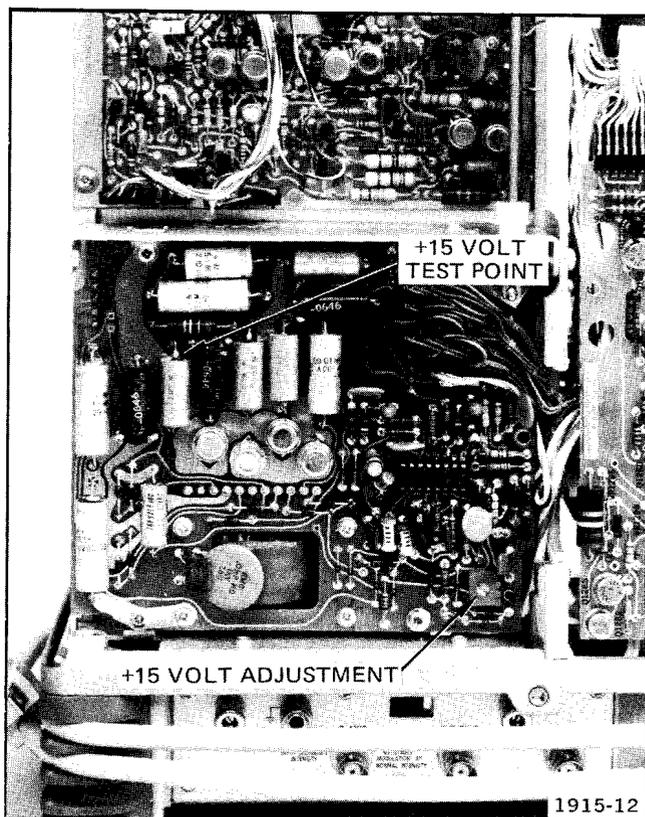

Fig. 5-1. +15 volt adjustment locations.
a. Connect the Precision DC Voltmeter between the +15-volt power supply test point (positive lead of C1974 on Power Supply Secondary circuit board; see Fig. 5-1) and ground.
d. ADJUST— +15 Volts adjustment R1940 (see Fig. 5-1) for a meter reading of +15 volts, ± 0.037 volt.